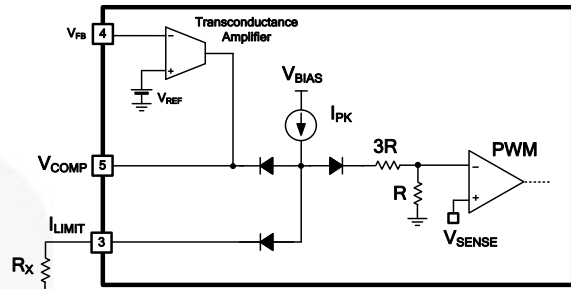

Figure 29. Current Limit Adjustment
As shown in Figure 29, the inverting input voltage of a PWM comparator that determines pulse-by-pulse current limit level is generated by the internal resistor R and current I_{PK} with a maximum value of $50 \mu A$. When the external resistor R_X is connected between I_{LIMIT} and GND , I_{PK} current can be adjusted because the added R_X will be configured with internal resistor ($3R+R$) with total $46 k\Omega$ in parallel and it will flow inversely proportional to R_X value connected. For example, if no resistor is connected, pulse-by-pulse current limit for MOSFET switching current will be the maximum level (300 mA). On the other hand, the minimum level can be set down to 70 mA by the R_X value that can be got from following shown in equation (1). Figure 30 shows the adjusted current limit according to the R_X .